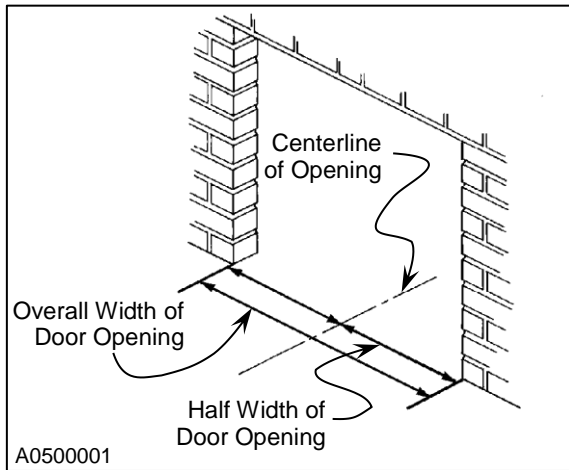

Figure 6
2. Using the centerline as a reference point, lay out and mark half of the door's production width along the floor. (See Figure 6)